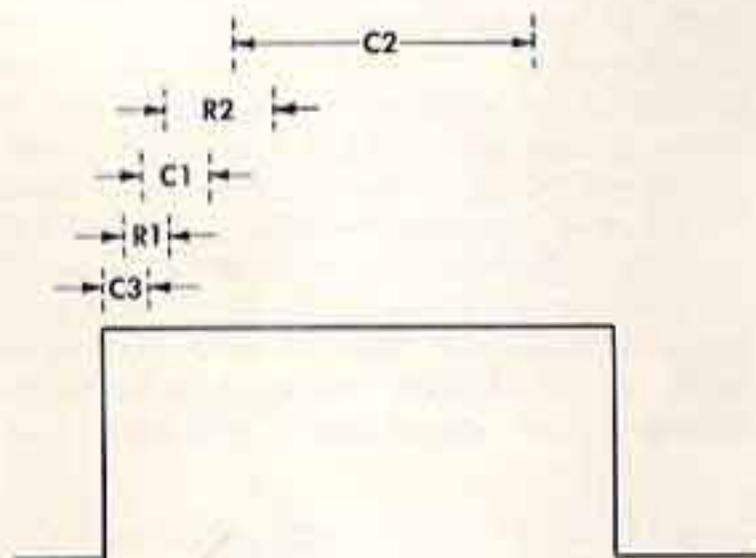

Fig. 2-1. Pulse area affected by each compensation adjustment.
The P6015 Compensating Box contains seven adjustable components. All except R5 (see schematic) vary the time constant of RC networks. The adjustable components and their affect on a 1-kc square wave (see Fig. 2-1) are as follows:
Compensation can be checked by displaying the oscilloscope calibrator 100-volt output through the P6015 Probe. Adjust the oscilloscope controls (0.05 volts/div, sweep rate 0.5 msec/div) to display a waveform similar to Fig. 2-1. If the waveform has aberrations, compensation is necessary. If the aberrations cannot be corrected by making minor adjustments, proceed as follows:
3. Set the sweep rates for 50  $\mu$ sec/div and display the leading corner of the square wave. Adjust R1, C3, and C1 for the sharpest leading corner without overshoot (see Fig. 2-1). Each may have to be adjusted several times for the sharpest corner. Maintain 2 divisions of deflection at the leading edge. The R1-C3 combination affects the very corner and C1 affects the area immediately following with some overlap.